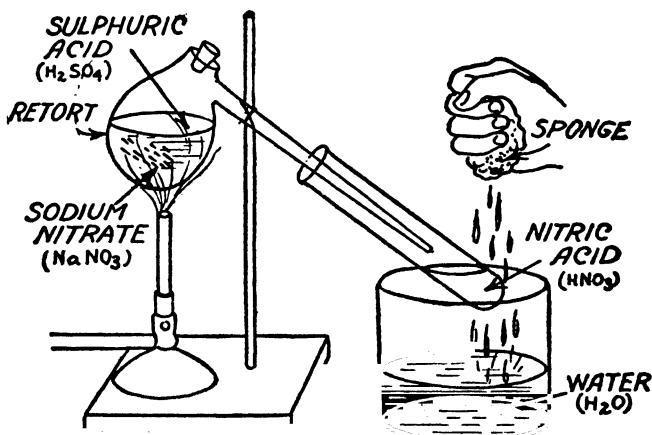

FIG. 30. APPARATUS FOR MAKING NITRIC ACID (HNO_3)
How to Make Nitric Acid.—*The Apparatus.*—To make *nitric acid* (HNO_3) get (1) a 2-ounce *glass retort* with a *stopper* in it, (2) a *test tube* and *fix* the retort to it, and (3) a *stand*, as shown in Fig. 30.